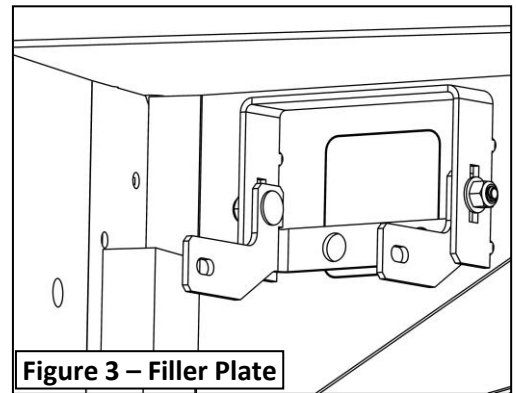

Figure 3 – Filler Plate
See Figures 3 and 4.
- a. If you are installing the Filler Plate without LED's, simply orient the bracket as shown in **Figure 3**, with the square portion filling the square cutout in the bumper.